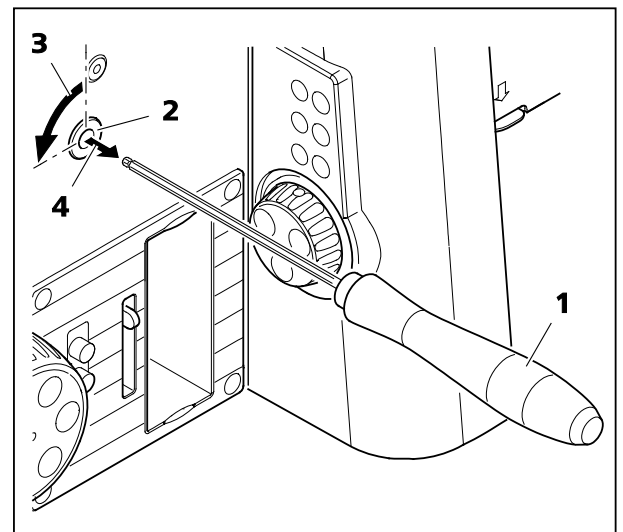

Fig. 36 Activating the high-performance focus
- Using the AF 3 ball-head screwdriver (Fig. 36/1) release the two locking pins (Fig. 36/2) on the right **and** left of the stand by turning them **90 degrees anticlockwise** (Fig. 36/3). The locking pin is released from its locked position (Fig. 36/4) by spring action. The head of the locking pin is now visible, and the high-performance focus is active.